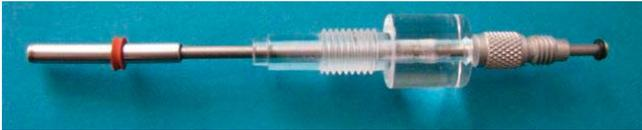

Fig. 6—The mounting tube with the gasket slides over the membrane sleeve.
1. Slide the gasket on the mounting tube as shown in Fig. 6.